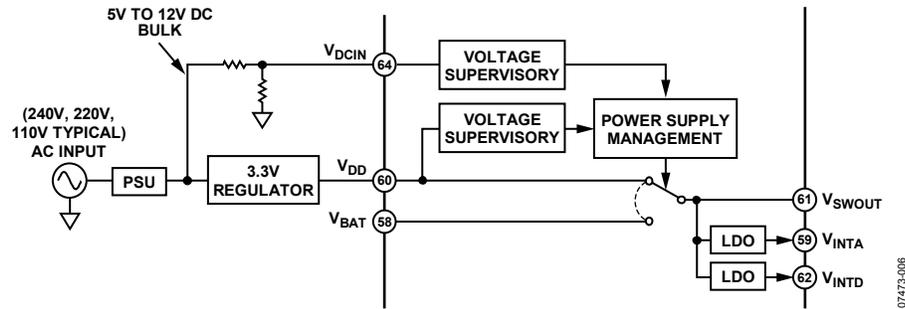

Figure 8. Power Management
- The unregulated bulk voltage that is applied directly to the  $V_{DCIN}$  via a resistor-divider network (see Figure 8) drops below 1.2 V.
- The regulated  $V_{DD}$  supply (see Figure 8) drops below 2.75 V.